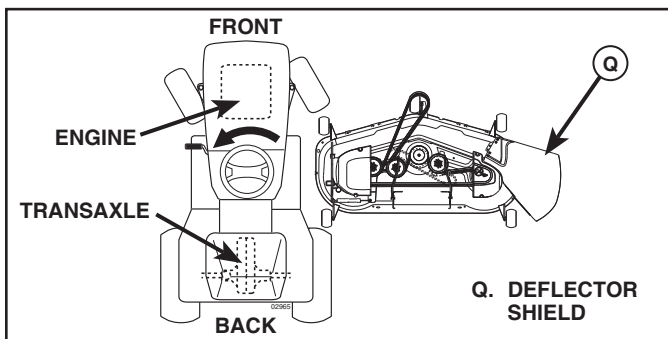

Fig. 5
3. TURN STEERING WHEEL LEFT AND POSITION MOWER (See Fig. 5)
- Turn steering wheel to the left as far as it will go and position mower on right side of tractor with deflector shield (Q) to the right.